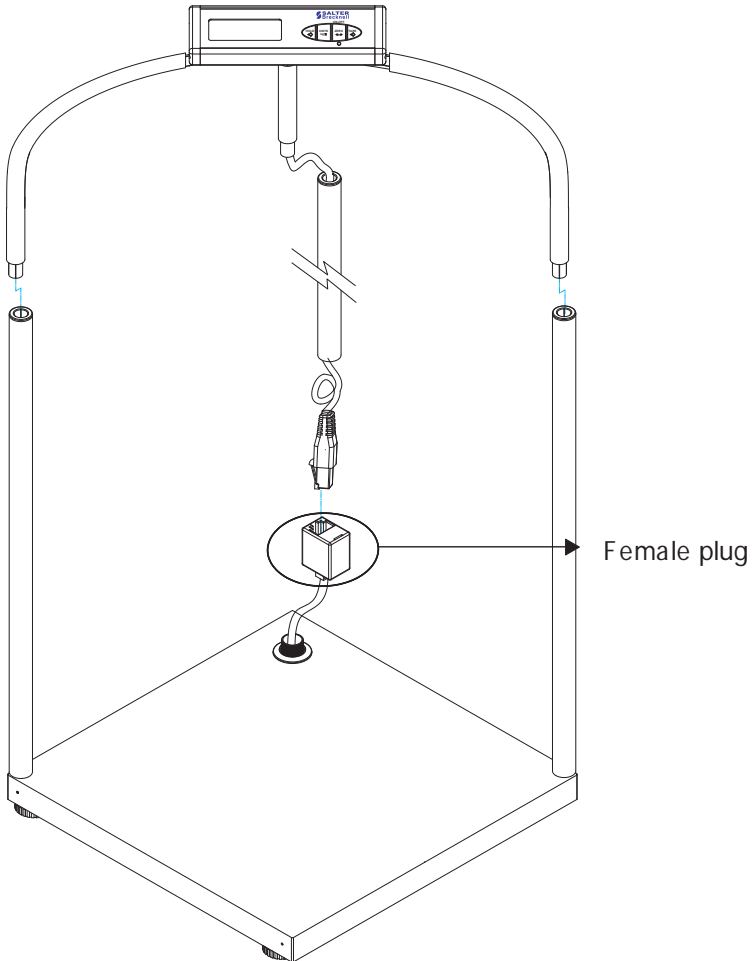

Figure 4
4. Connect the male plug with the female connector. See figure 4. □
5. Insert the last vertical stainless steel support rod into the center □ mounting hole on the platform. See figure 4. □
See figure 4 and 5. □